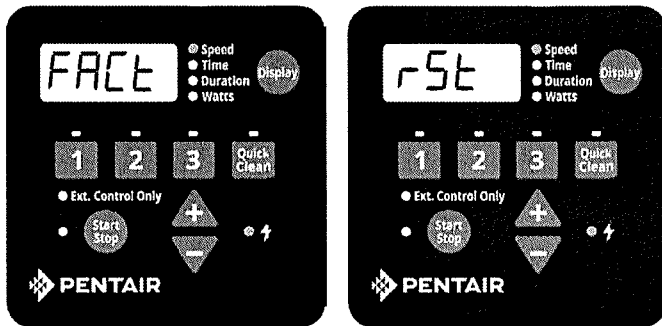

Figure 14: Drive Factory Reset
4. The screen will display "FACT rSt" if factory reset is successful. See **Figure 14**.